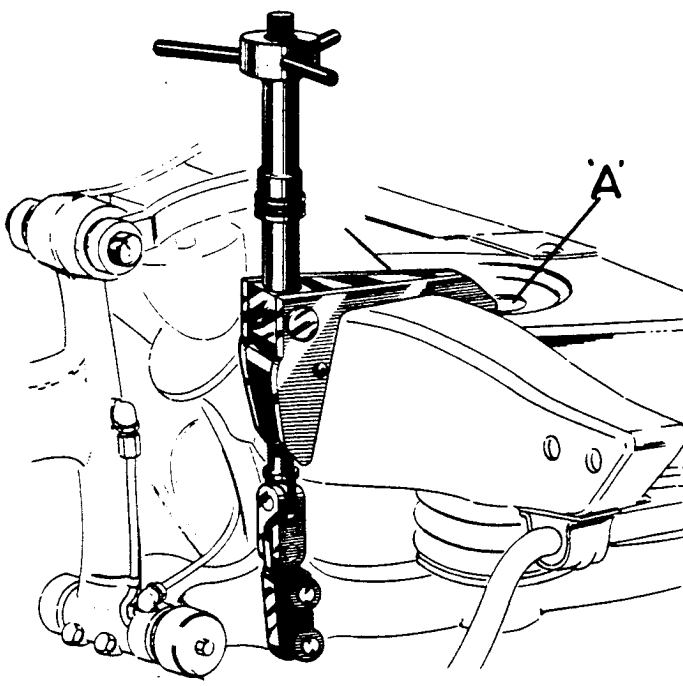

FIG. 2. SPRING COMPRESSING TOOL IN POSITION.
- (iv) Place the spring retaining bolt, Tool No.3752/T1002 downwards through the hole ('A' Fig.2) provided in the top of the front 'pan' and leave it in this position.
- (v) Place the lower end of the spring compressing Tool No. 3752/T1008 on to the two studs of the front stabiliser bracket and then place the claws of the tool so that they fit snugly under the lip (edge) of the hole in the top of the front 'pan' as shown in Fig. 2. Tighten up the two knurled nuts of the tool to secure.